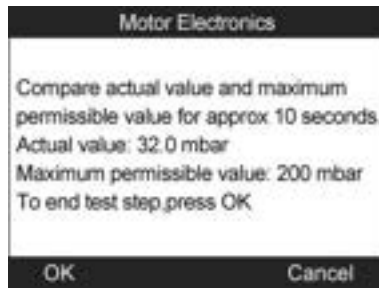

Figure 11.44
- e) Check the exhaust backpressure with engine running at cut-off speed. The tool will read off the actual backpressure value and compare with the upper limit (Figure 11.44). Select **OK** to end the test or **Cancel** to return to previous menu.